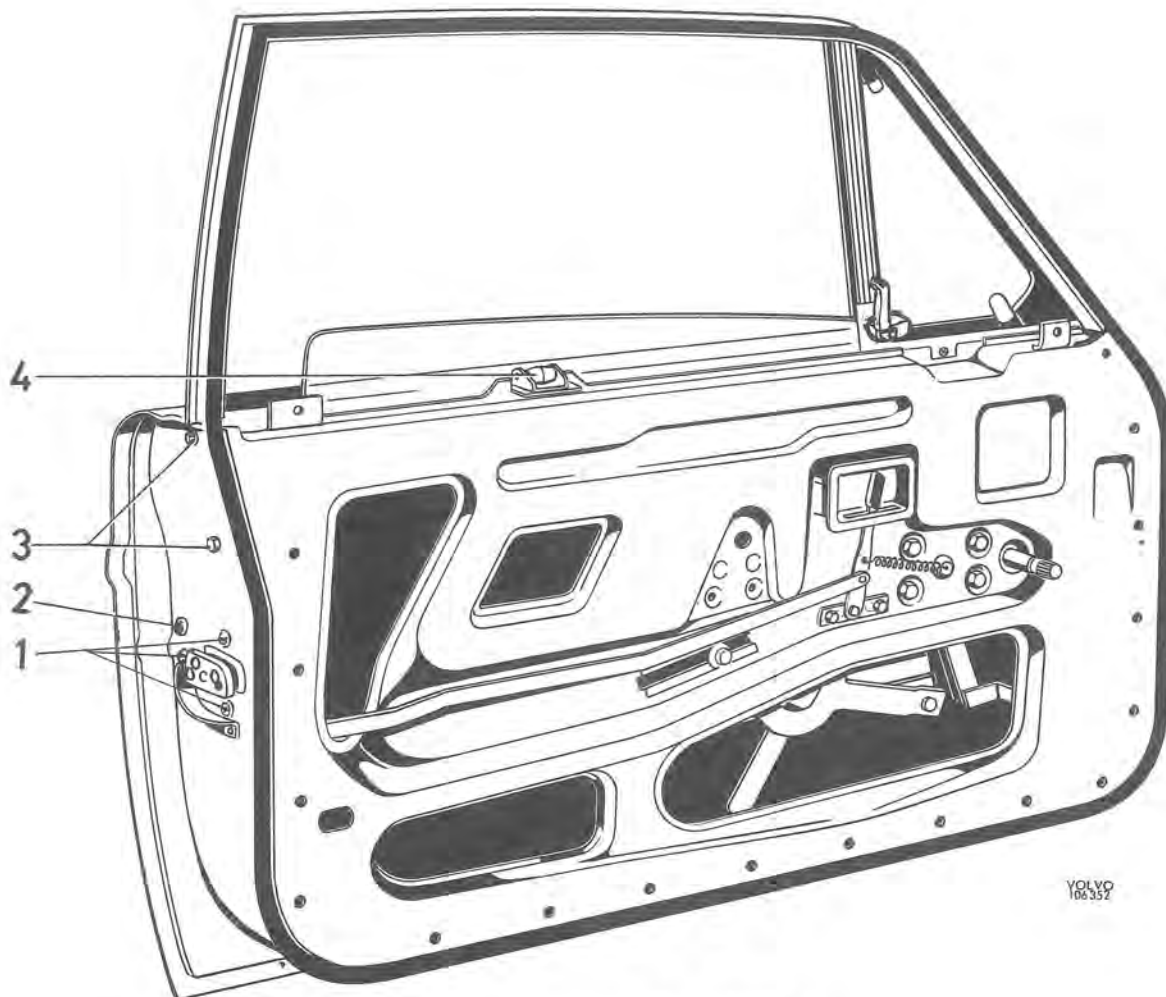

Fig. 8-9. Front door
Remove the door stop in accordance with the instructions under "Removing and fittings door stops". Unscrew the bolts between the hinges and door. The bolts are accessible when the door is opened. The door can then be taken off (Fig. 8-9).
2. Remove the lock cylinder by unscrewing the attaching screw which is fitted in the rear edge of the door. (2, Fig. 8-9).
6. Unscrew the two screws for the rear winder rail on the edge of the door. (3, Fig. 8-9).
7. Unscrew the three screws for the door lock. These screws are placed on the rear edge of the door. (1, Fig. 8-9).